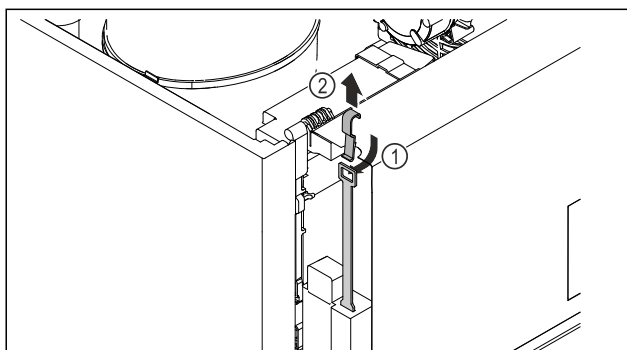

Fig. 211
- Insert the emergency release key Fig. 211 (1) from above, hook it onto the lock and pull it upwards Fig. 211 (2).